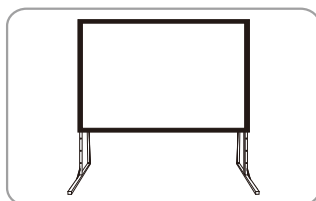

Figure 21
- Lift up the screen and installation is completed (Figure 21).